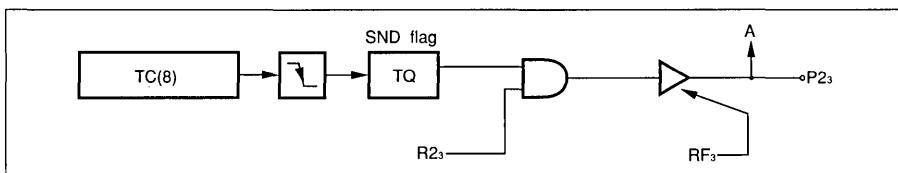

Fig. 6 SND Signal
The count pulse CP can be selected from divider signals  $f_{IN}$ ,  $f_0$  and the system clock, by using the mode register RD. If the count register (TC) overflows, the SND flag reverses its status at the falling edge of the TC. A sound signal can be obtained at the TC output by putting P2 in output mode and sending a "1" to pin P23 (See Fig. 6).